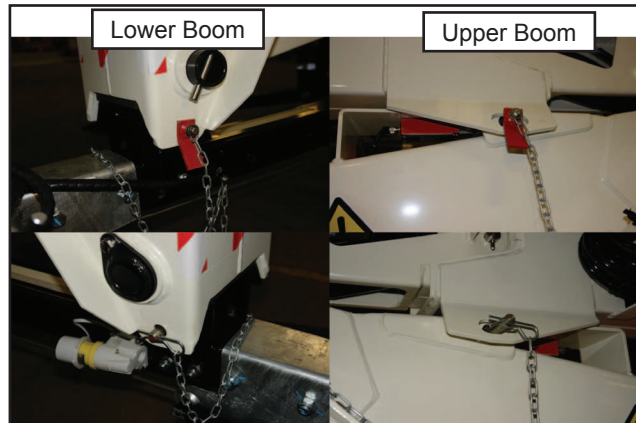

Figure 2-20 - Transport Pin Locations.
2. Engage the Transit Pins and lock in place using an 'R' clip (refer to Figure 2-20).